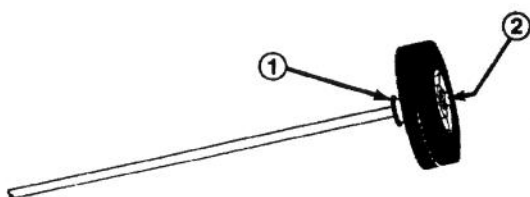

Figure 1
1. Install one push nut onto end of axle (Fig. 1) by placing nut on flat surface, inserting end of axle shaft and striking opposite end of shaft lightly with a hammer.
2. Slide wheel onto axle and against push nut (Fig. 1). Make sure hub side of wheel with six spokes is toward center of axle.
3. Slide flat washer onto end of axle and against side of wheel hub (Fig. 1).